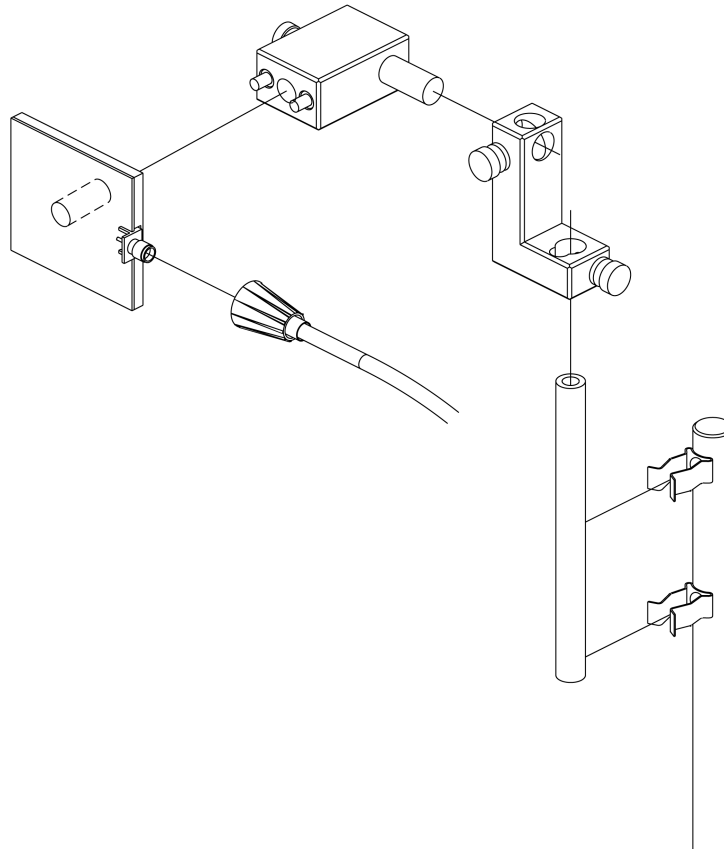

Figure 12. Patch antenna set-up in the E-plane
- ☐ 10. Remove the patch antenna from the clip-on holder, then redo the set-up by clipping the antenna so that it is oriented in the E-plane, as shown in Figure 12. Orient the transmission antenna in the E-plane.